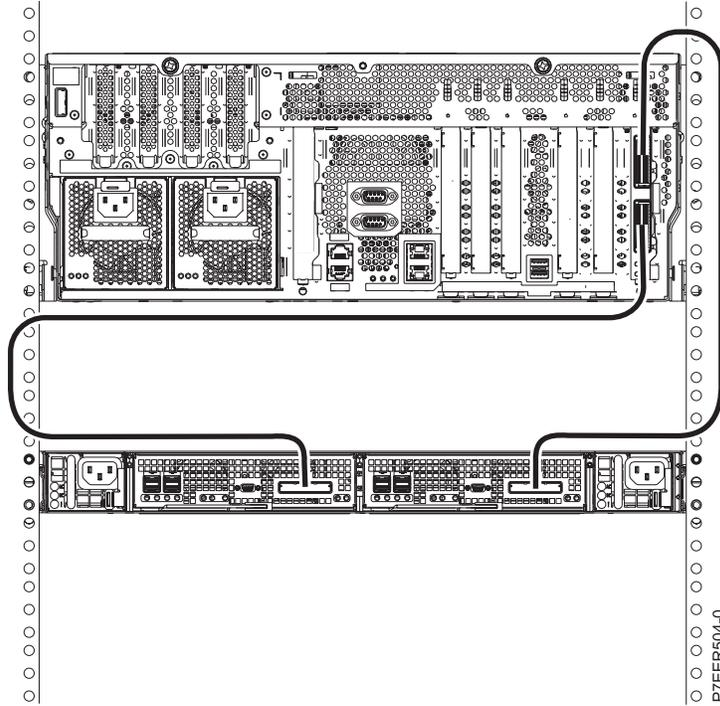

Figure 9. One ED/R1 PCIe storage enclosure connected to a single 02E/4D or 05E/6D system by using one FC EJ03 PCIe2 GX++ adapter and two PCIe cables
Figure 9 on page 10 shows one ED/R1 PCIe storage enclosure connected to a single 02E/4D or 05E/6D system by using one feature code (FC) EJ03 PCIe2 GX++ adapter and two PCIe cables.